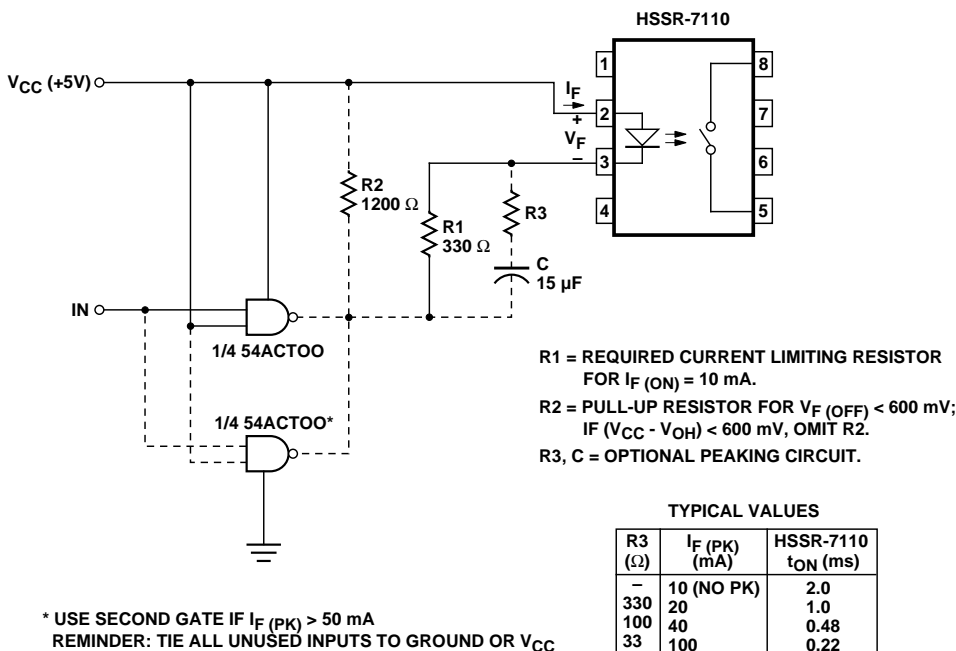

Figure 1. Recommended Input Circuit.
- For a faster turn-on time, the optional peaking circuit shown in Figure 1 may be implemented.
Input Circuit: The drive circuit of the electro-mechanical relay coil needs to be modified so that the average forward current driving the LED of the HSSR-7110 does not exceed 20 mA. A nominal forward drive current of 10 mA is recommended. A recommended drive circuit with 5 volt VCC and CMOS logic gates is shown in Figure 1. If higher VCC voltages are used, adjust the current limiting resistor to a nominal LED forward current of 10 mA. One important consideration to note is that when the LED is turned off, no more than 0.6 volt forward bias should be applied across the LED. Even a few microamps of current may be sufficient to turn on the HSSR-7110, although it may take a considerable time. The drive circuit should maintain at least 5 mA of LED current during the ON condition. If the LED forward current is less than the 5 mA level, it will cause the HSSR-7110 to turn on with a longer delay. In addition, the power dissipation in the output power MOSFETs increases, which, in turn, may violate the power dissipation guidelines and affect the